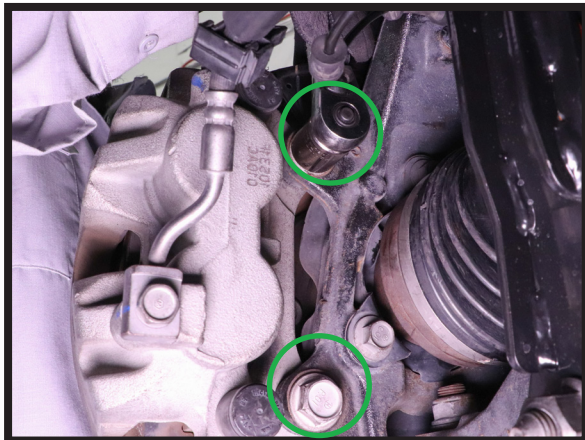

FIGURE 33
7. CUT THE ZIP TIES HOLDING THE BRAKE CALIPER TO THE FRAME AND REINSTALL CALIPER, TIGHTENING BOLTS TO MANUFACTURER'S SPECIFICATIONS. THEN REINSTALL CALIPER RETAINING CLIP. (FIGURES 33, 34)